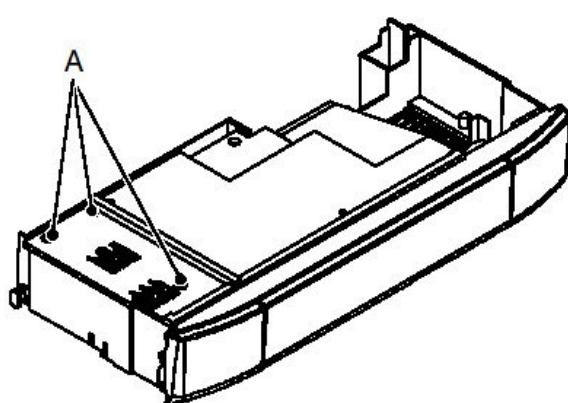

Fig. 7.57
8. Loosen the screws A and remove the service panel (Fig. 7.57).